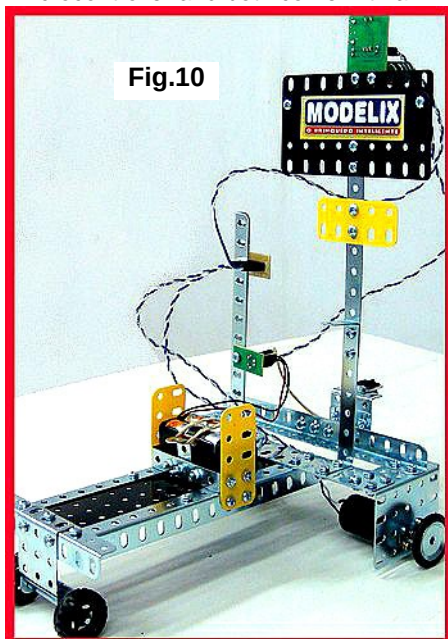

Fig.10
• Next are **two Kit Robo**, Robot RS1 & RS5, for Vehicles controlled by light sensors. • **RS 1** makes a Trike driven by a 1.5-12v Geared Motor which runs when the light from a torch shines onto a Light Sensor. • **RS5** has 2 Motors with Gear-box for a larger 3-Wheeler (Fig.10) and there is a video on the web site showing it following a circuit of a wavy black line on a white ground. It is said that both Kits could be used with a microcontroller and both come with an instructional CD.